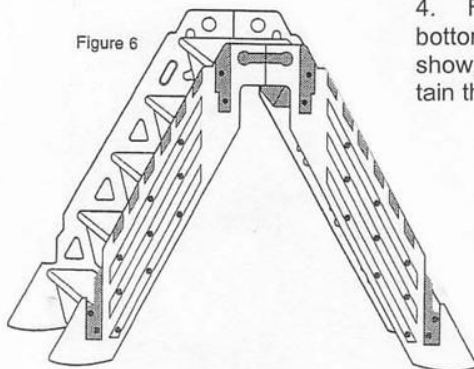

Figure 6
5. Set second set of stringers (L & R) on top of installed treads/risers, top platform & bottom risers, aligning knobs with holes similar to Steps 2-4 above. Press/tap stringers in place with body weight or a small piece of wood & hammer similar to above. Make certain all knobs protrude through and lock stringers firmly in place. Check all knobs/locations for proper assembly & to make certain they are secure (see Figure 6 & Detail B)